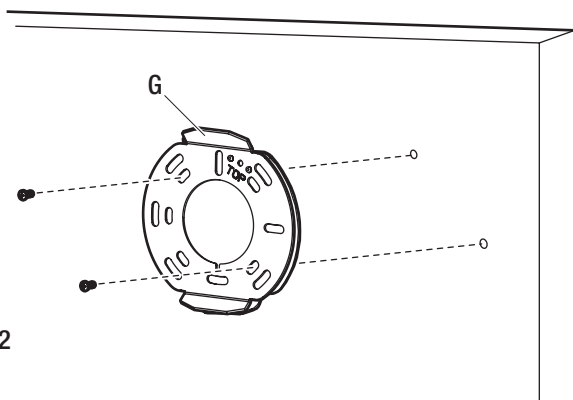

Fig. 2
- Mark and drill two to four holes on the wall surface as per the desired location for attaching the mounting plate (G).
- Use two or more suitable screws (not included) applicable to the surface of mounting and attach the mounting plate (G) on the surface. (Fig. 2)
**NOTE:** Use the leveling bubble (F) inside the mounting plate (G) to adjust mounting for a level install.